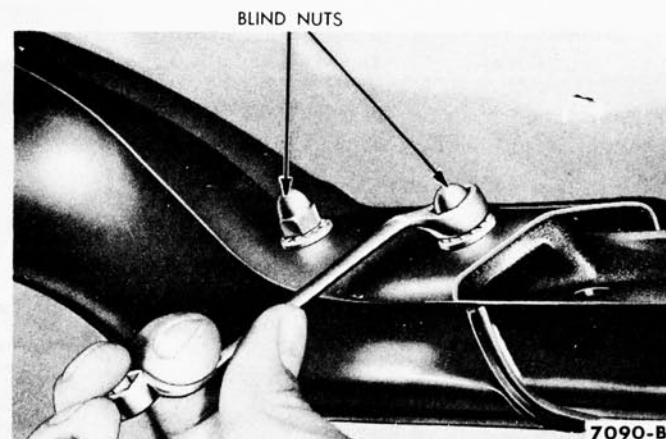

FIG. 1—Header Bow Adjustment
4. Loosen the blind nuts (Fig.1), move the bow fore or aft to get proper alignment at the header, and tighten the nuts.